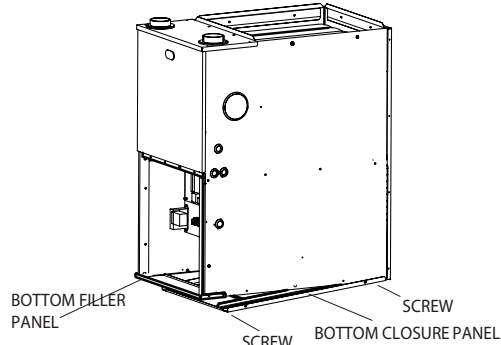

Fig. 5 - Removing Bottom Closure Panel
This furnace may be installed in an upflow position or horizontal on either the left or right side panel. Do not install this furnace on its back. (see Fig 5 through 7).
1. Tilt or raise furnace and remove the screw holding bottom filler panel. (See Fig. 5.)